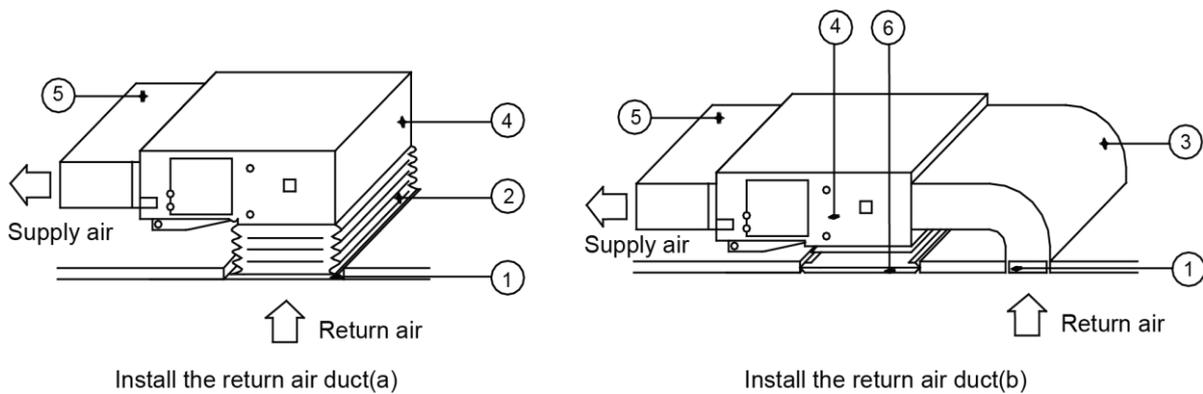

Figure 3-1-22
- (1) cover plate.
- (2) Connect one end of the return air duct to the return air outlet of the unit by rivets and the other to the return air louver. For the sake of the convenience to freely adjust the height, a cutting of canvas duct will be helpful, which can be reinforced and folded by 8# iron wire.
- (3) More noise is likely to be produced in the bottom return air mode than the backward return air mode, so it is suggested to install a silencer and a static pressure box to minimize the noise.
- (4) The installation method can be chosen with considering the conditions of the building and maintenance etc., as shown in Figure 3-1-22.
- (5) More noise is likely to be produced in the bottom return air mode than the backward return air mode, so it is suggested to install a silencer and a static pressure box to minimize the noise.
- (6) The installation method can be chosen with considering the conditions of the building and maintenance etc., as shown in Figure 3-1-22.